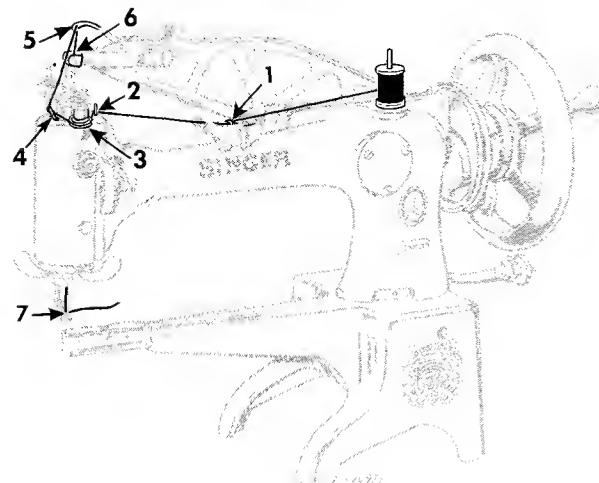

Fig. 19. Threading Needle
1. Place the spool of thread on the spool pin so that thread will draw from the rear side of spool. See **Fig. 19**.
2. Raise the wire guide in the oil cup on top of the arm and pass thread under guide 1 then press guide back into position. See Fig. 19.